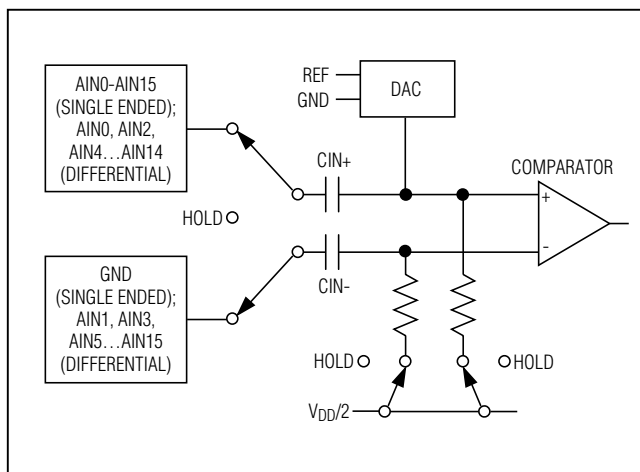

Figure 3. Equivalent Input Circuit
**Note 6:** See Figure 3 (Input Equivalent Circuit) and the *Sampling Error vs. Source Impedance* curve in the *Typical Operating Characteristics* section.
The MAX1027/MAX1029/MAX1031 use a fully differential ADC for all conversions. The analog inputs can be configured for either differential or single-ended conversions by writing to the setup register (see Table 3). Single-ended conversions are internally referenced to GND (Figure 3).
The equivalent circuit of Figure 3 shows the MAX1027/MAX1029/MAX1031s' input architecture. In track mode, a positive input capacitor is connected to AIN0–AIN15 in single-ended mode (and AIN0, AIN2, AIN4...AIN14 in differential mode). A negative input capacitor is connected to GND in single-ended mode (or AIN1, AIN3, AIN5...AIN15 in differential mode). For external track-and-hold timing, use clock mode 01. After the T/H enters hold mode, the difference between the sampled positive and negative input voltages is converted. The time required for the T/H to acquire an input signal is determined by how quickly its input capacitance is charged. If the input signal's source impedance is high, the required acquisition time lengthens. The acquisition time,  $t_{\text{ACQ}}$ , is the maximum time needed for a signal to be acquired, plus the power-up time. It is calculated by the following equation: